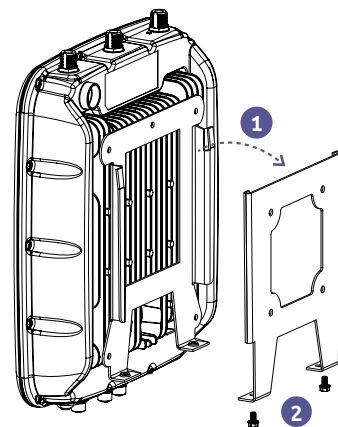

Fig 3. Installing unit to wall piece
4. Hang the unit assembly on the wall piece of the bracket by matching up the bracket side flanges and sliding the unit assembly down onto the mounted wall piece until it rests on the locking flanges. Insert two M8 screws into the locking flanges at the bottom to fasten the two pieces of the mounting bracket together **(Fig. 3)**.